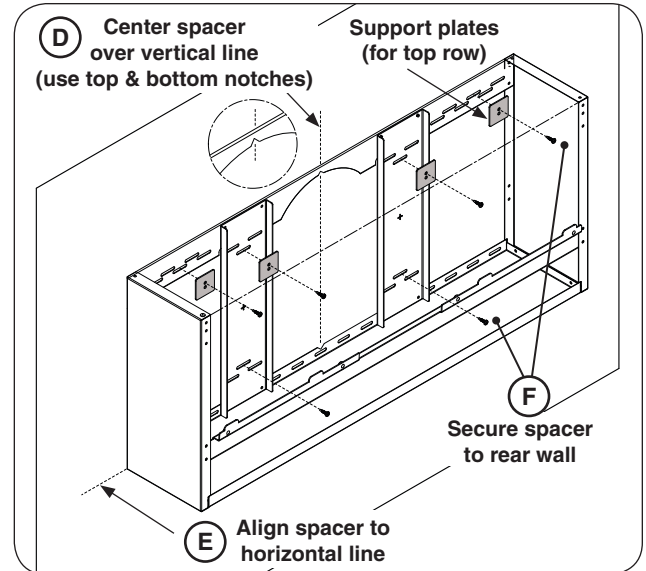

Fig. 13-1 Install Fire Magic spacer (36" shown)
4. Carefully place and hold the spacer over the two marked lines. Center the spacer to the vertical line (using the notches), and align the bottom of the spacer to the horizontal line. See Fig. 13-1, D-E.
5. Using appropriate mounting hardware for the rear wall construction, secure the spacer into the rear wall (see Fig. 13-1, F).